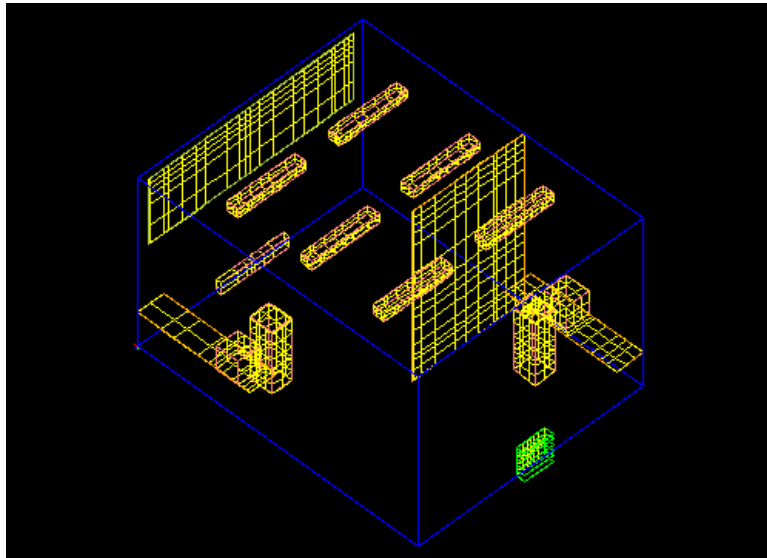
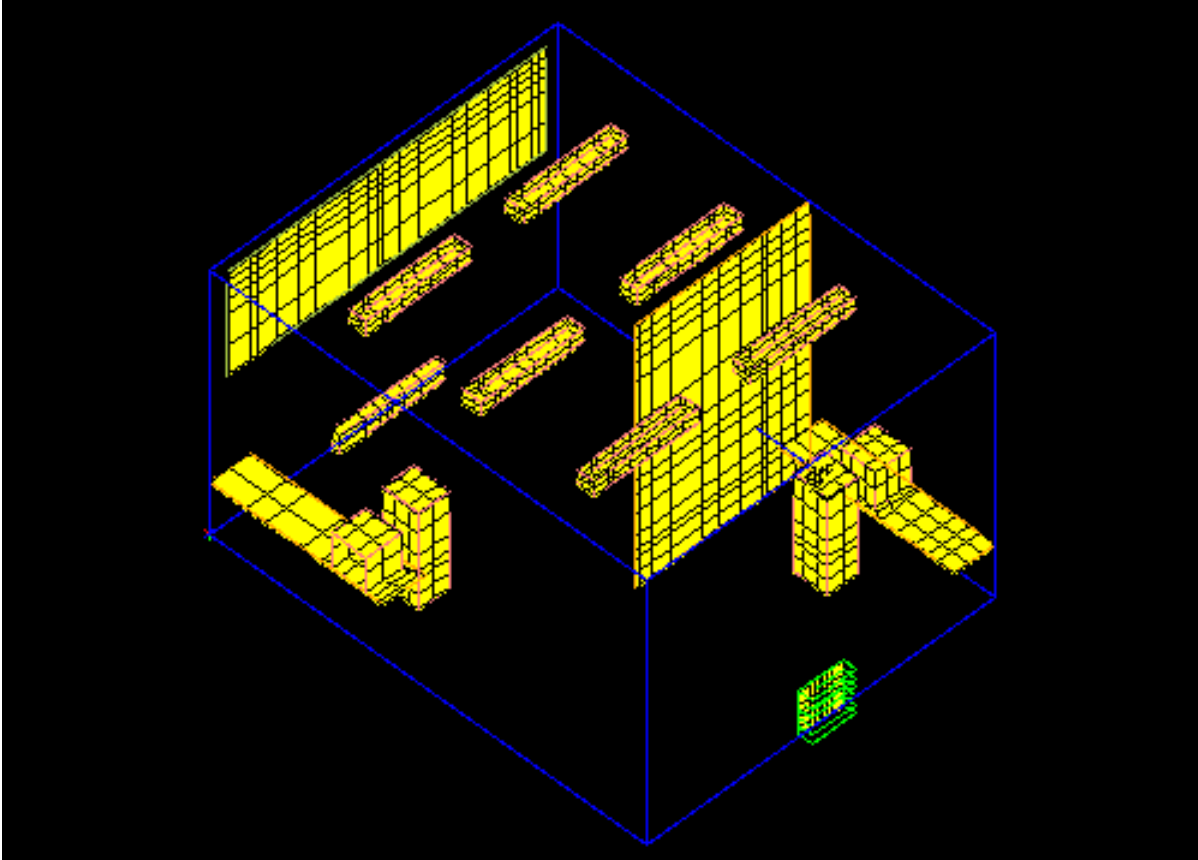

Figure 26.9.2: Display of Surface Elements
Figure 26.9.4: Filled Solid Display
- Choose **Surface** to display the mesh on the exterior faces of objects. An example is shown in Figure 26.9.2.
5. If you want to add filled shading to the mesh display, rather than displaying just the mesh lines, turn on the **Solid** option. When this option is off, the mesh will appear as shown in Figure 26.9.2. When it is on, the mesh will appear as shown in Figure 26.9.4. The mesh lines will not be displayed when the **Wire** option is off. When the **Solid** option is on and the **Wire** option is off, the mesh will appear as a solid without the mesh lines.